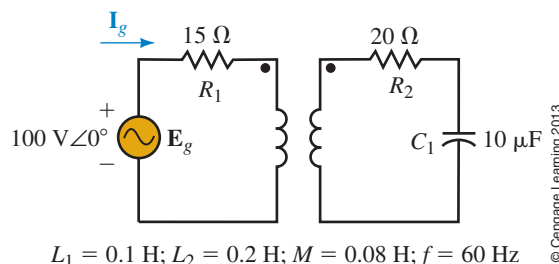

FIGURE 23–86
42. For the circuit of Figure 23–86: